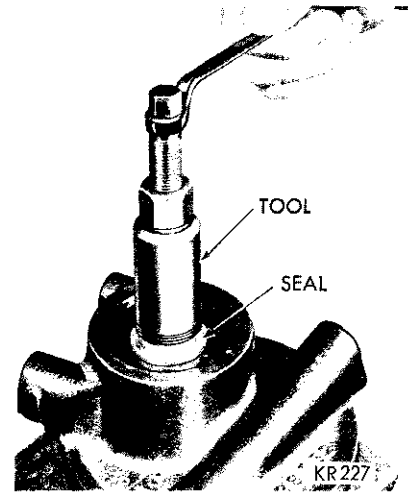

Fig. 5—Removing Pump Oil Seal
(6) If there has been evidence of a leak, remove pump shaft oil seal by threading Tool C-3783 for 1.2 pumps (C-3642 for .46 pumps) far enough into seal to engage the metal portion of the seal (Fig. 5).